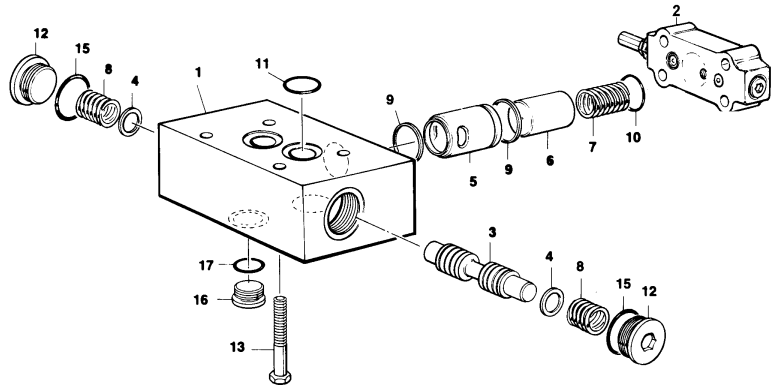

FIGURE 14
PARTS LIST FOR FIGURE 14
See figure 14: Lube spool (3) and insert it into valve body (1). When the spool is fully engaged, move the spool back and forth a few times to check for smooth operation. Spool must move freely in body bore.
See figure 14: Lube O-rings (11) and install in body. Install shuttle valve on adapter (see figure 16) using 4 screws (13). Torque to 75 ft.-lbs (102 Nm).